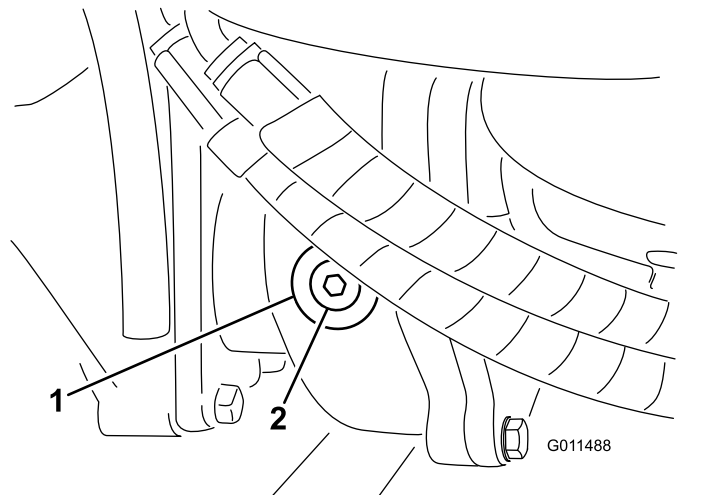

Figure 17
2. Remove the check/fill plug from the left side of the gear box (Figure 17) and make sure that lubricant is up to the bottom of the hole. If the level is low, add enough lubricant to bring the level up to the bottom of the hole.